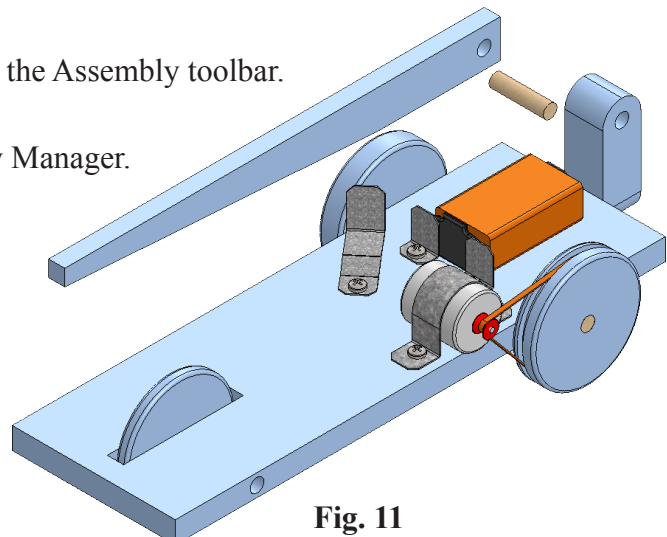

Fig. 11
Step 7. Place Front Axle as positioned in **Fig. 11**. **Browse and insert Cross Support**. Click OK  in the Property Manager when done.